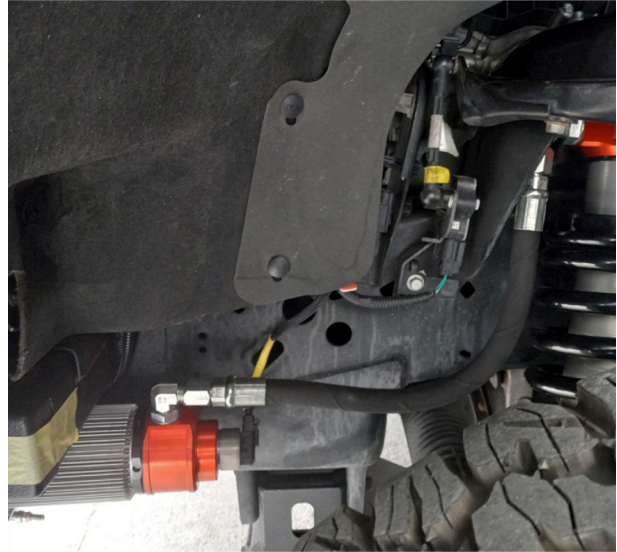

Fig. 8: The hose fittings inboard and facing forward the vehicle.
1. Install the new coil-over assembly with the hose fittings facing forward (Fig. 8). Loosely install the provided bar-pin bolts and top cap nuts. Set the reservoir aside until a later step.